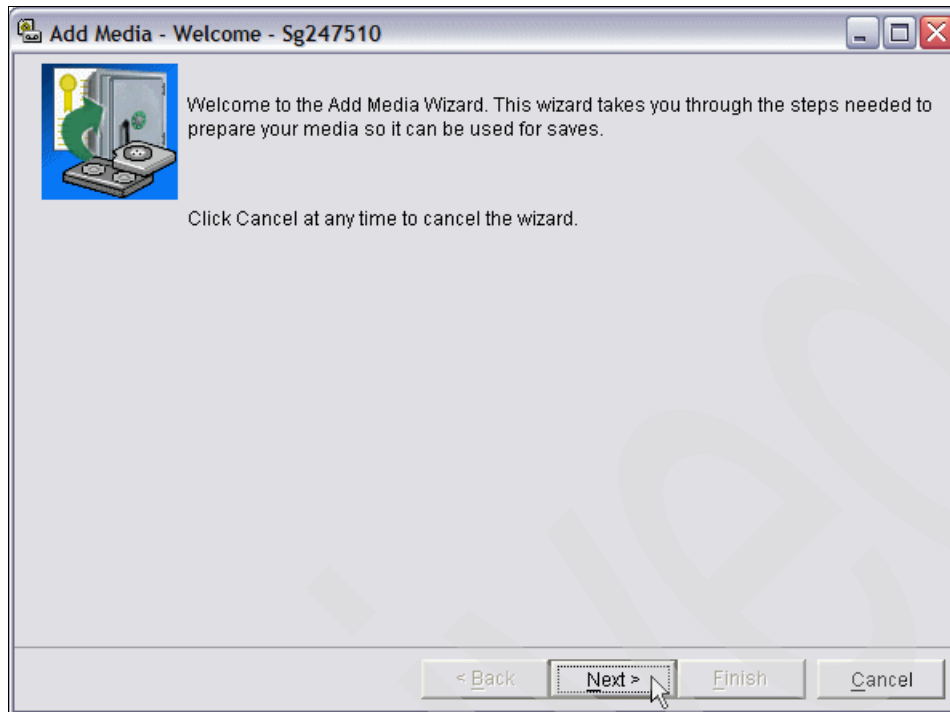

Figure 6-18 Add Media - Welcome
12.This opens the first Add Media wizard window shown in Figure 6-18. Click **Next**.